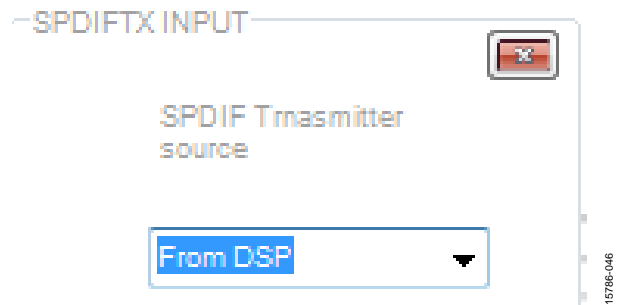

Figure 46. Routing the DSP Core Outputs to the S/PDIF Transmitter
- b. From the dropdown menu that appears, select **From DSP** to choose the signal coming from the DSP core (see Figure 46).
- c. Close the dialog box shown in Figure 46.